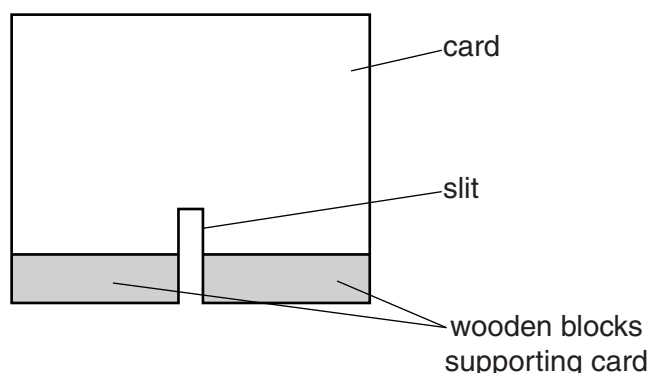

Fig. 2.1
2. If a ray box with slit is not available, then a slit may be constructed as described below and a source of light may be placed behind the slit. The slit should be formed using a 20 cm square piece of card or board. A vertical slit should be made in the card, from the centre of the base of the card. The height of the slit should be slightly greater than the height of the plane mirror and its width should be approximately 1 mm. A piece of tracing paper should be taped across the back of the slit. The slit should be supported so that it can stand perpendicular to the bench. This should be done by attaching wooden blocks to the base of the slit. The slit should not be obscured so two blocks should be used, one each side of the slit. This is shown in Fig. 2.1.